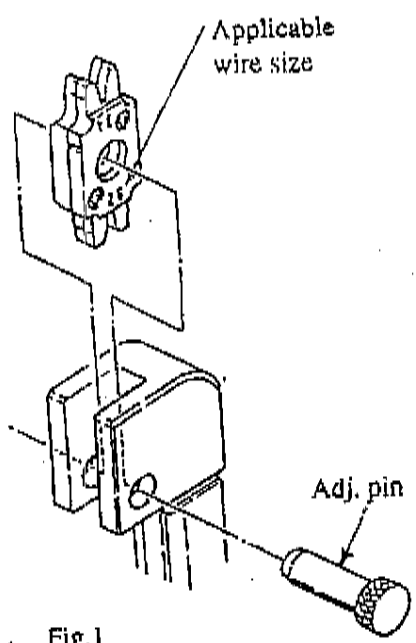

Fig.1
- (1) Squeeze the handles until the dies are completely closed. The ratchet will then release and the handles will open.
- (2) Check the marking on the upper die. The applicable wire size is shown there. Select the correct position depending on the wire you will use. Then correctly set the upper die, as shown in Fig. 1.